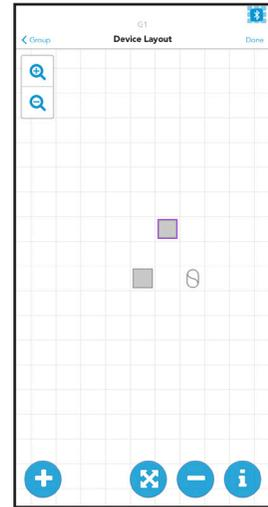

Figure 13: Device Layout - Grid
- To add the fixture to the grid, tap its relative position on the grid (Figure 13). Once the fixture has been added to the grid, it will not longer appear in the list of available devices. It will be added to the list of assigned devices. Once the fixture is added to the grid, you'll see the actual light level of the fixture change to a lower light output. Use this as a way to track how many more fixtures need to be added to the grid from the room you're in.